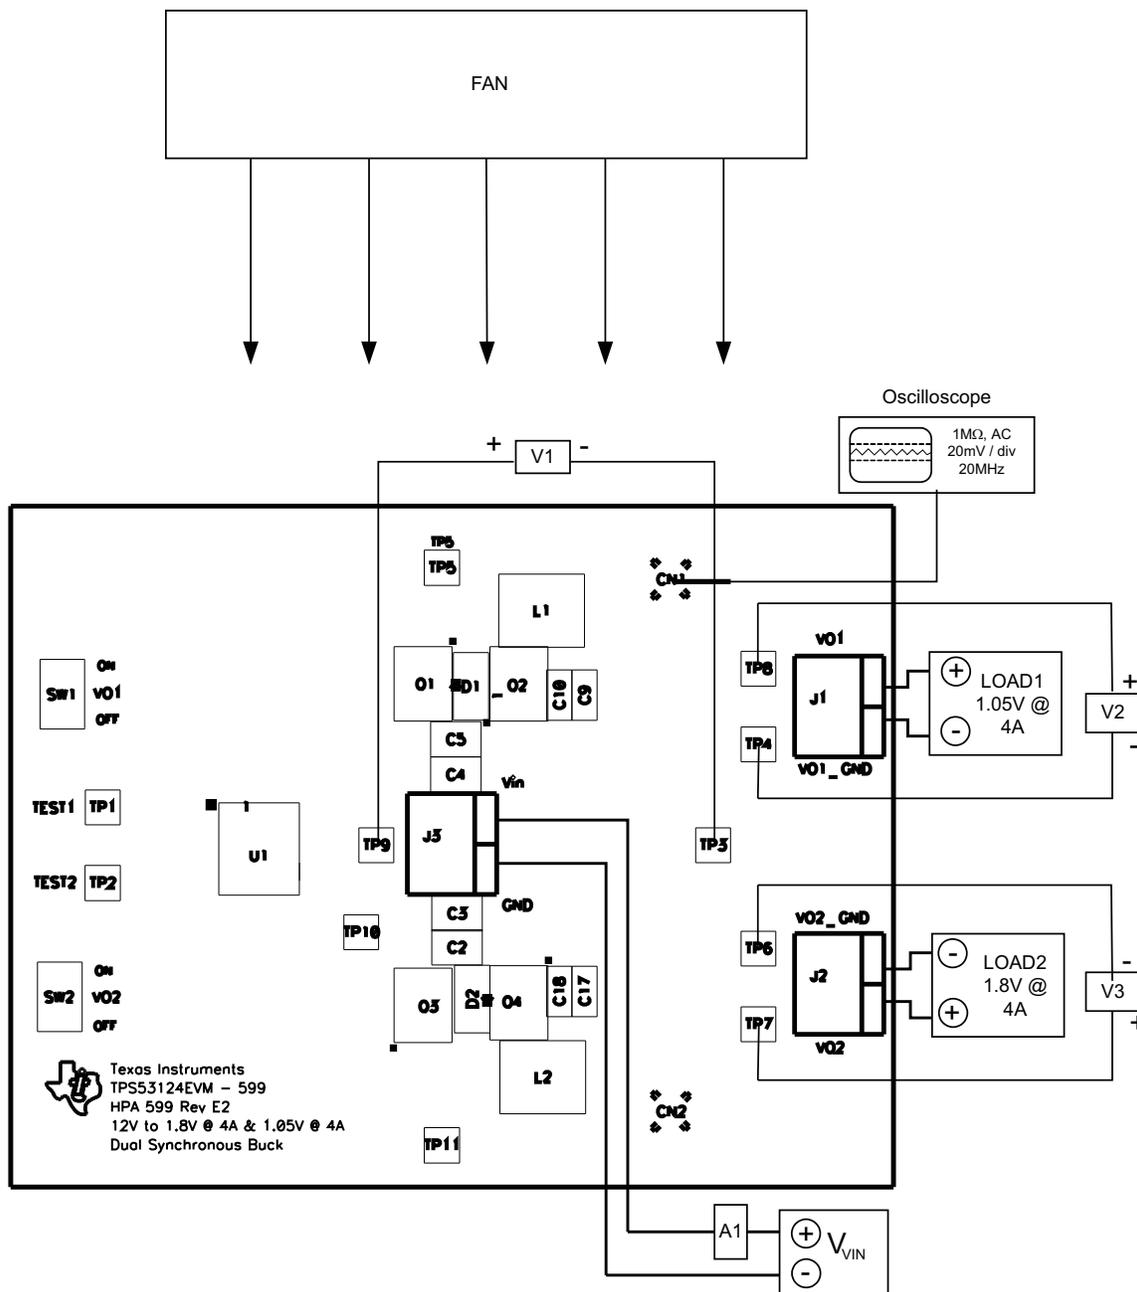

Figure 2. TPS53125EVM-599 Recommended Test Setup
Figure 2 shows the basic test setup that is recommended to evaluate the TPS53125EVM-599. Note that although the return for J3 and J1 and JP2 are the same system ground, the connections must remain separate as shown in Figure 2.
2. Prior to connecting the dc input source,  $V_{IN}$ , it is advisable to limit the source current from  $V_{IN}$  to 3 Adc maximum. Ensure that  $V_{IN}$  is initially set to 0 V and connected as shown in Figure 2.
- Connect oscilloscope probe to CN1 or CN2 shown in Figure 2.